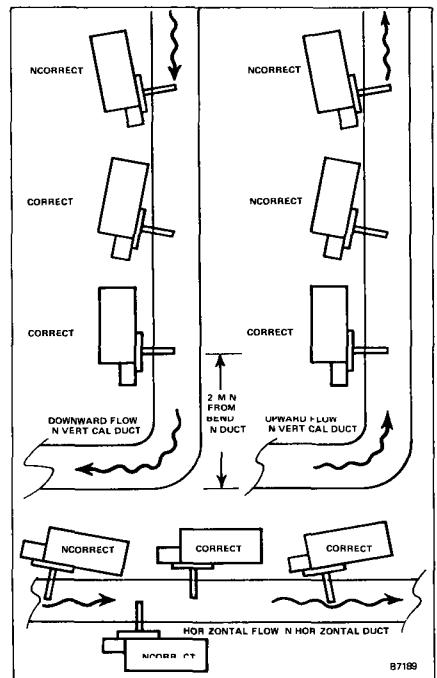

FIGURE 3 Side Views of Analyzer Enclosure Mountings Showing Correct and Incorrect Orientation of Probe to Gas Flow and Duct
**NOTE** Refer to Figure 3 for analyzer enclosure mountings that demonstrate correct and incorrect positioning of the intake end of the probe. The probe intake should be at least two feet from a bend in the duct to assure direction of gas flow has stabilized. Also, the protrusion line of the probe should be perpendicular to or angled away from the direction of flue gas flow and not pointing upward. This should assure that the force of gas flow or the pull of gravity will not help particles to lodge in the probe intake.